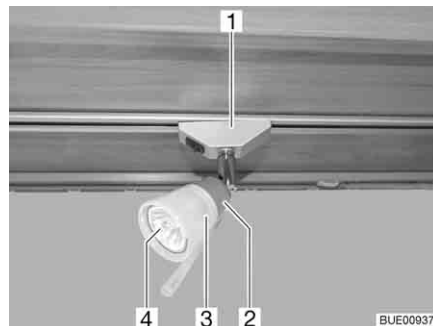

Fig. 270 Halogen spotlight (movable)
- Turn the halogen spotlight (Fig. 270,1) by 90° and remove from rail.
- Turn the lamp shade (Fig. 270,3) in an anticlockwise direction.
- Withdraw lamp shade complete with halogen bulb (Fig. 270,4) carefully from the holder (Fig. 270,2).